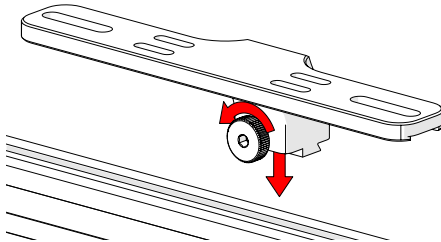

Fig. 80 - Loosen knob and mount to dovetail groove
1. Loosen the knob and align the dovetail nut with the dovetail groove (Fig. 80).